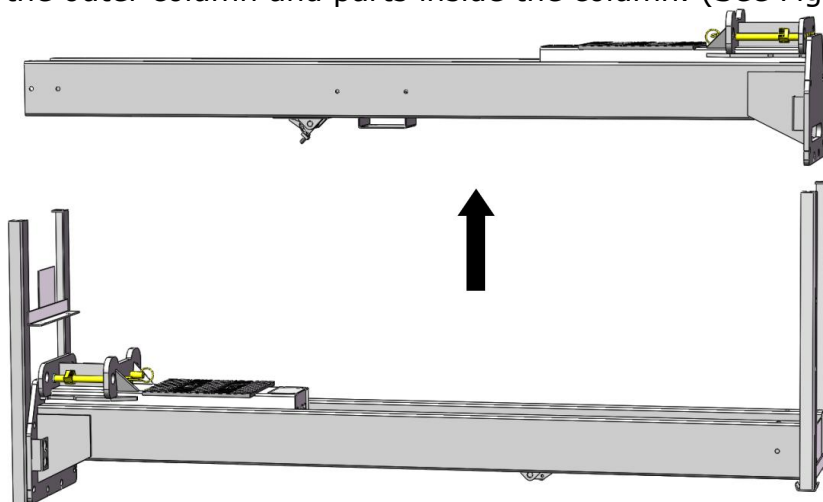

Fig. 13
4. Lift the upper column with a fork lift or hoist, loose the upper bolts of the package bracket, then take out the outer column and parts inside the column. (See Fig. 13)